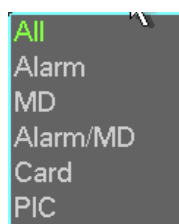

Figure 4-34
- Picture backup: Please set the corresponding time, channel and then select the type as PIC from the dropdown list. See Figure 4-34. Please click the Add button and then select the pictures. Click the Start button; you can copy the specified pictures to the selected portable devices.